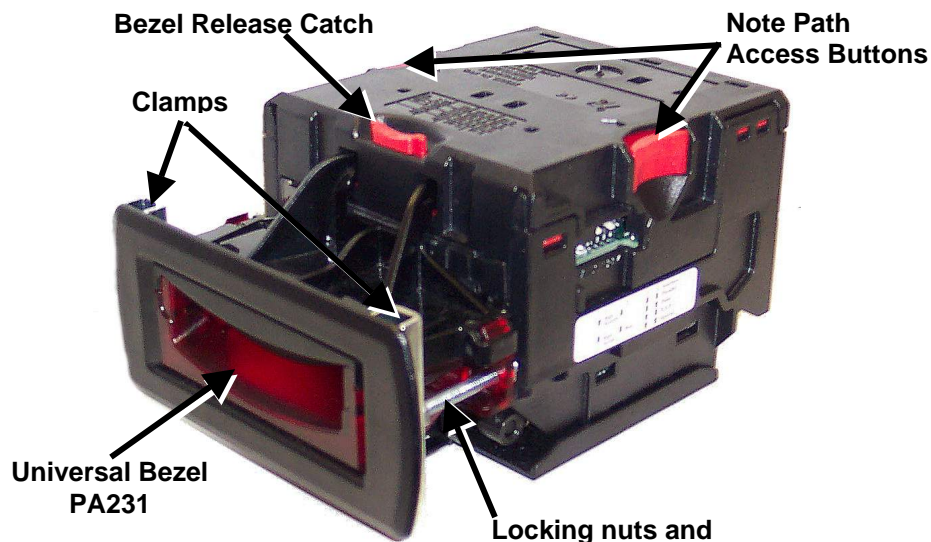
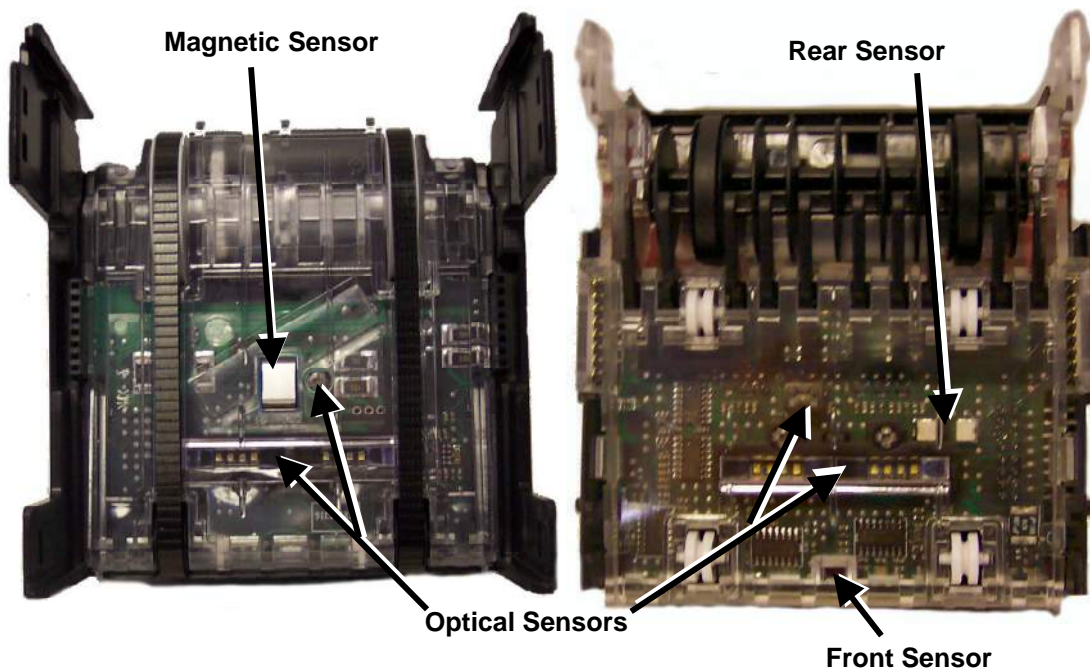

Figure 9 – Bezel and NV8 Installation
Figure 10 - NV8 Sensors
The NV8 validator is supplied with the Universal Bezel-PA231 (see figure 9).
- Remove the 4 nuts, 2 metal clamps, star washers and 2 bolts from each side of the bezel as above (see figure 9).
Remove the NV8 from its bezel. Push the 2 red Note Path Access Buttons (see figure 9) on the sides of the NV8 and lift to expose the note paths, place them on a clean dry surface. The note path will now be exposed for cleaning, (see figure 10).
Carefully wipe the surfaces with a soft lint free cloth that has been dampened with a water and mild detergent solution (i.e. household washing up liquid). Take particular care around all the sensor lenses (see figure 10), ensuring they are clean and dry. Clean any metal debris that may be attached to the magnetic sensor.
- With the NV8 note paths exposed (see figure 10) place the unit on a clean dry surface.